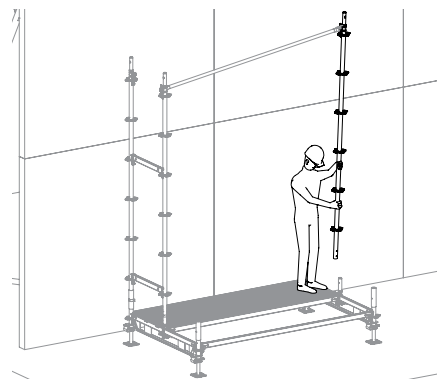

Fig. D3.03
5. Insert Standard UVR complete with Guardrail EPG. (Fig. D3.03)